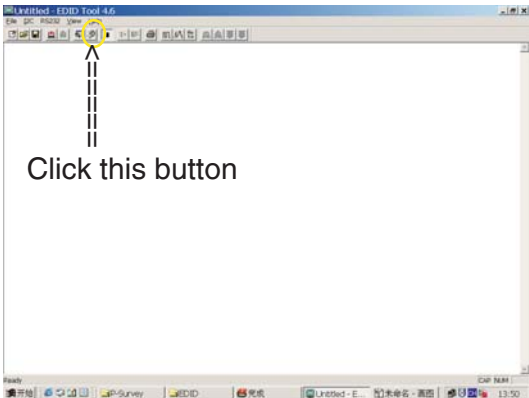
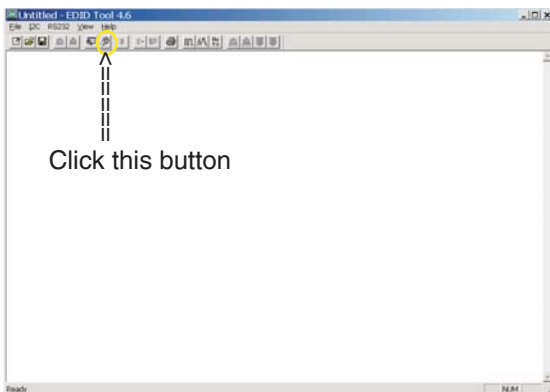

Fig. 11
Fig. 28
1. Click  icon as shown in Fig. 11 from the tool bar to bring up the Channels "Configuration Setup" windows as shown in Fig. 11.
- Click  icon as shown in Fig. 11 from the tool bar to bring up the Channels "Configuration Setup" windows as shown in Fig. 28.